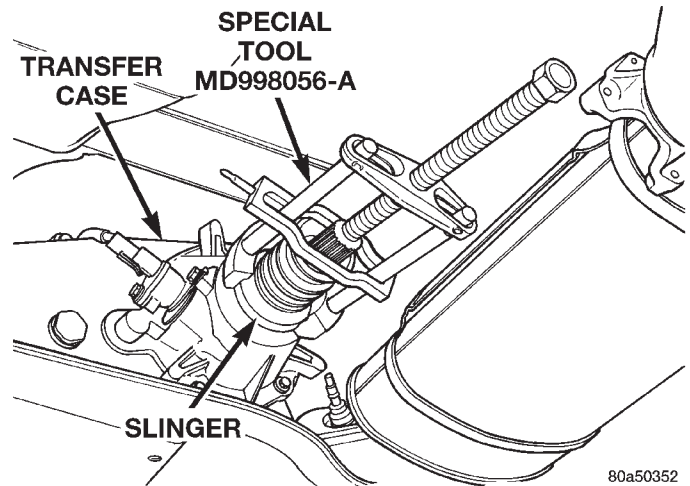

Fig. 11 Rear Slinger Removal
- (2) Using puller MD-998056-A, remove rear slinger (Fig. 11).